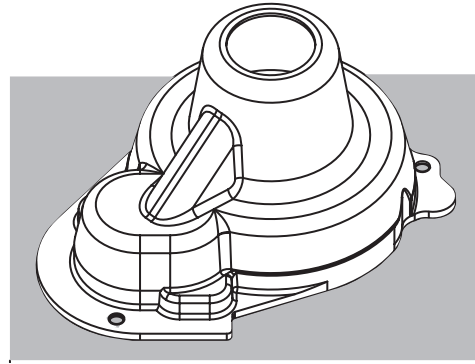

Figure 50A
- 3. Locate the Gear Cover (142) and cut the back side of it along the trim line as shown in Figure 50A. If not already present, drill three 1/8" mounting holes in the gear cover at the three locations marked with dimples.
- 4. Place the trimmed Gear Cover over the Motor Plate and secure it with three 4-40 x 1/8" Button Head Screws (143) through the three tapped holes in the Motor Plate.
- 5. Install the Gear Cover Plug (144) into the large hole in the Gear Cover.